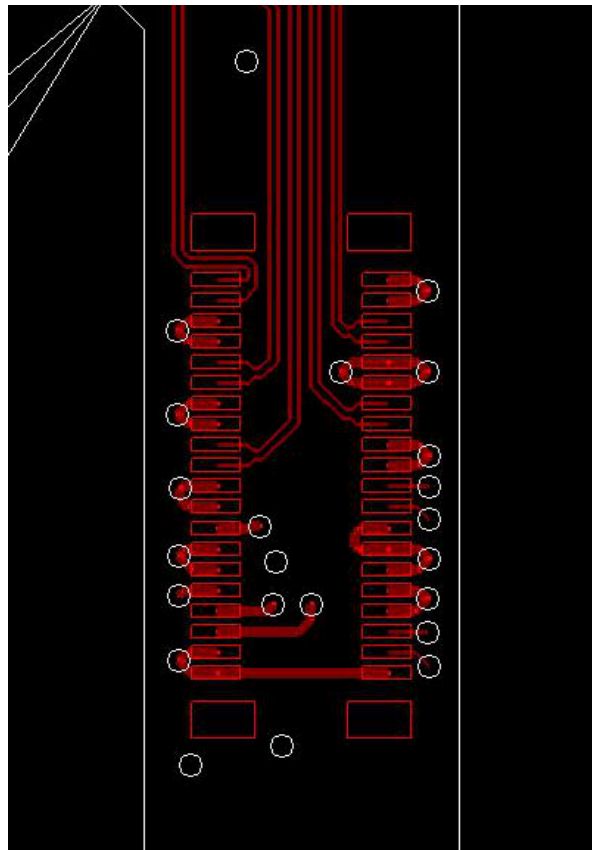

Figure 10-1. High-Speed (HS) Bus Connections
- Minimize vias, layer changes, and turns for the HS bus signals. Refer Figure 10-1.